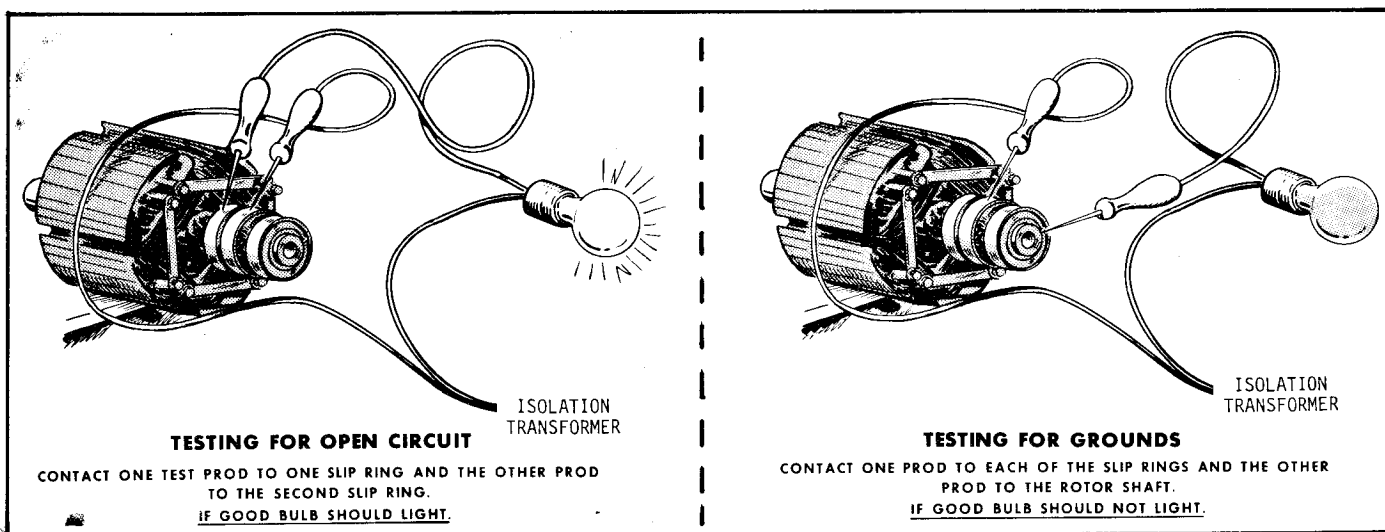

FIGURE 4-12. TESTING FOR OPEN CIRCUIT AND GROUNDS.
2. Test for a short or open circuit in rotor winding by measuring resistance of winding. It should measure between 3.5 and 4.8 ohms for the JB and between 2 and 3 ohms for the JC (at 70°F). If an accurate ohmmeter isn't available, check the rotor for open circuit or grounding with an AC test lamp (Figure 4-12). Replace the rotor if it is grounded, or has an open circuit or short.